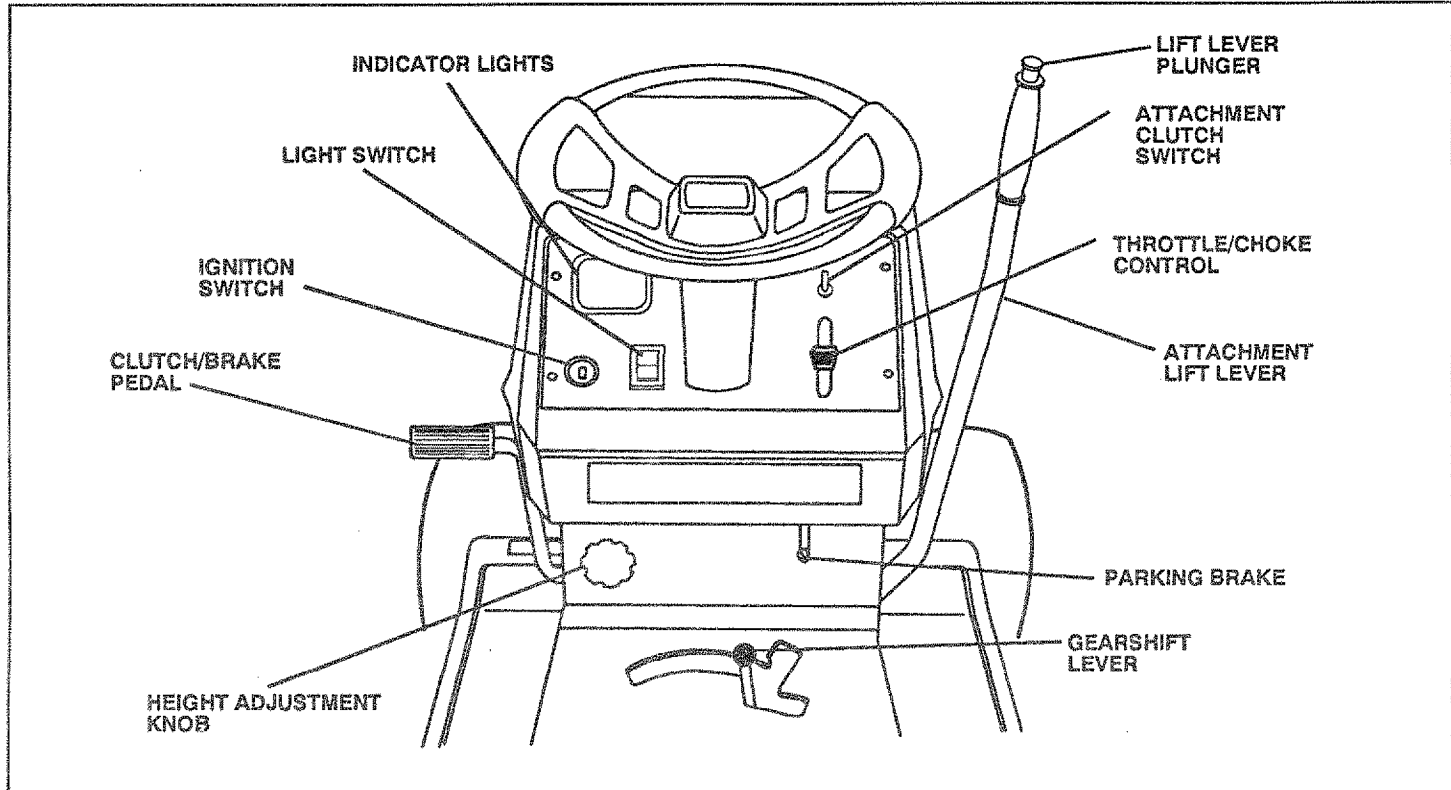

FIG. 6
(See Fig. 6)
- Slide seat until a comfortable position is reached which allows you to press clutch/brake pedal all the way down (See Fig. 6).
TO MOVE FORWARD AND BACKWARD (See Fig. 6)